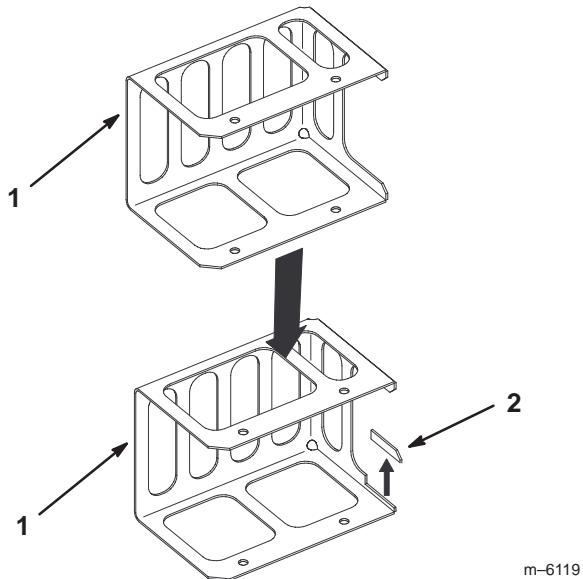

Figure 15
1. Before installing the hydraulic tank heat shield, cut out a section of the heat shield as shown in figure 15. This will allow the heat shield to fit around the side bracket.